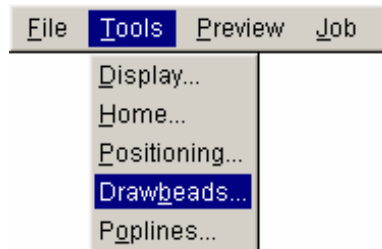

Figure 7.26 Tools menu
1. Select **Tools**→**Drawbeads...** from the AutoSetup menu bar. See Figure 7.26.